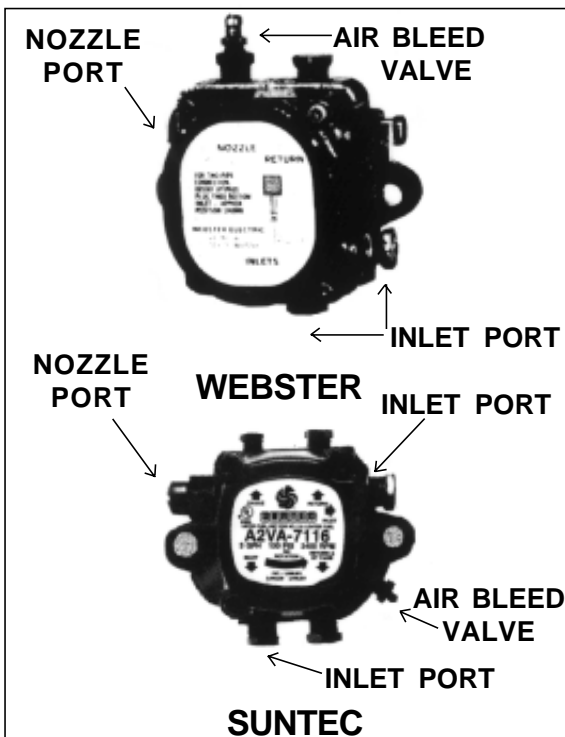

Figure 17. Oil Pumps
2. Attach 1/4" I.D. plastic tube over the end of the airbleed valve on the oil pump as shown in Figure 17. Place the other end of the tube in a large container.